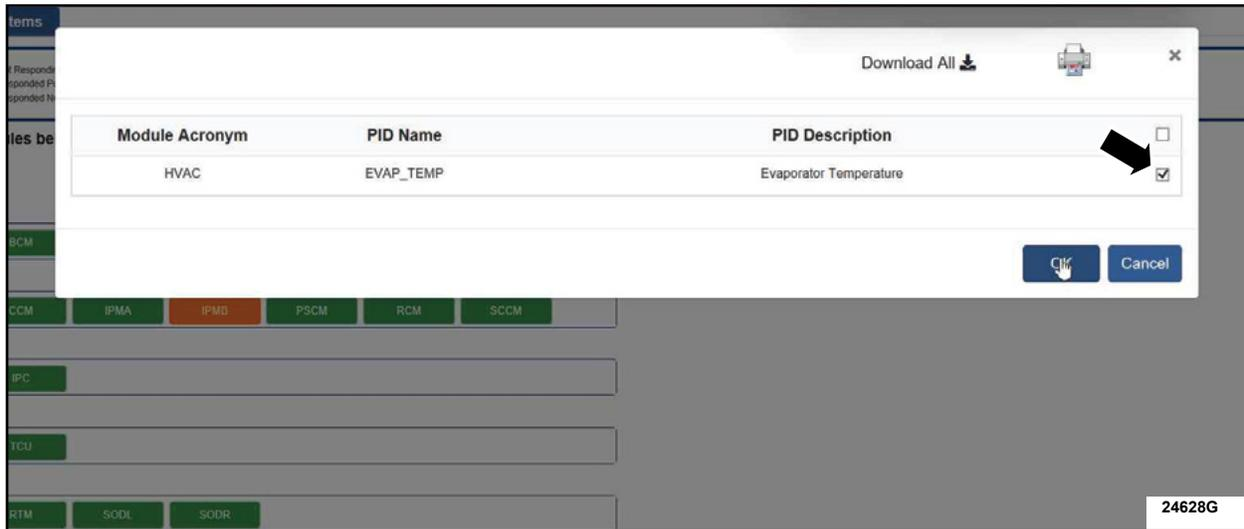

FIGURE 9
19. Check the **EVAP_TEMP** box and click **OK**. See Figure 9.